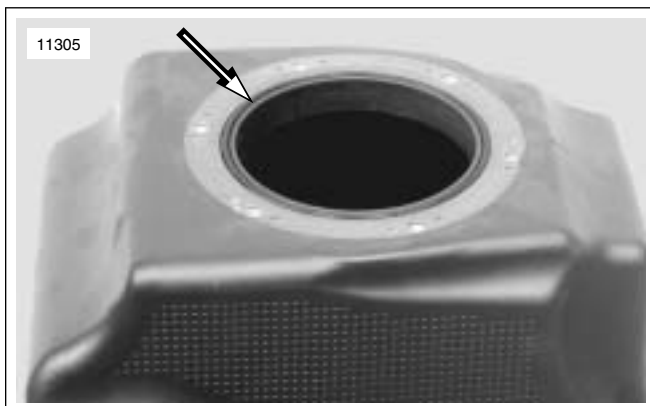

Figure 4-7. Fuel Tank O-ring
- See Figure 4-7. Apply a small dab of silicone gasket sealer to the **new** fuel tank cap o-ring. Install the quad seal onto shoulder of the tank opening. Let the gasket sealer cure for five minutes.